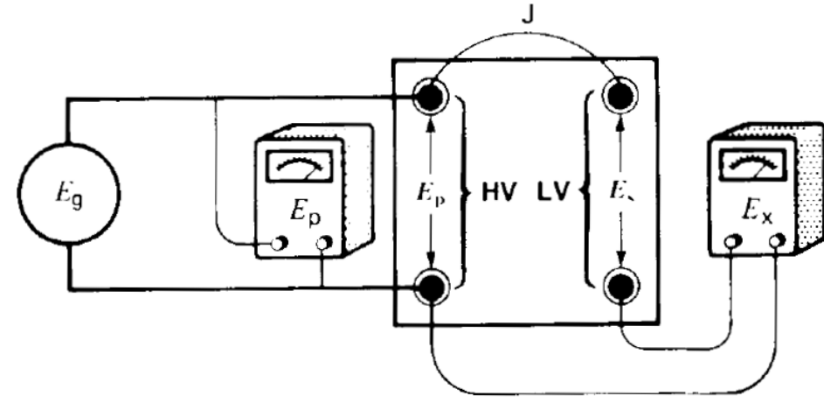

Figure 10.11
3. Connect two voltmeters to as shown in Figure 10.11